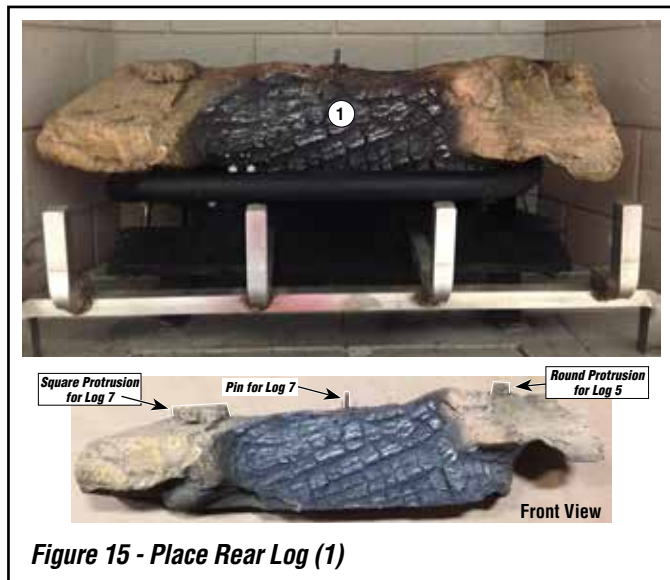

Figure 15 - Place Rear Log (1)
1. Place rear log (1) being pilot in-between the tube burner. (**Figure 15**)
7. Position top rear log (7) over the square protrusion and pin on the rear log (*See Figure 15 and G*).